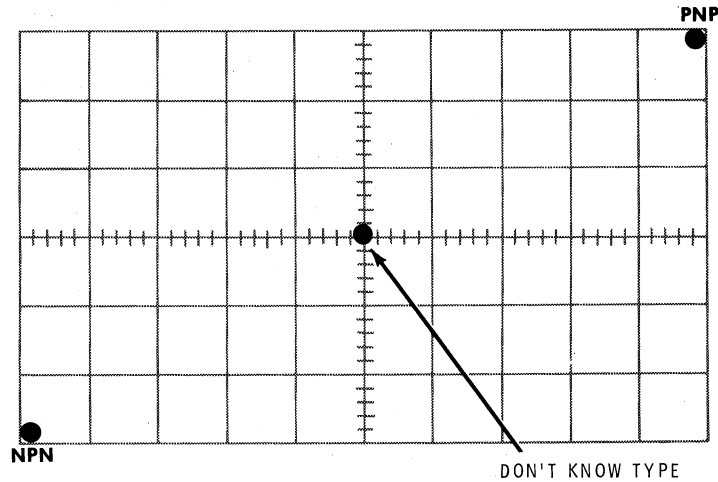

Figure 2-4
- () If the transistor is an NPN, place the dot in the lower left-hand corner of the screen. If it is a PNP, place it in the upper right-hand corner of the screen. If you don't know if it is NPN or PNP, place the dot in the middle of the screen as shown in Figure 2-4.
2. Refer again to Figure 2-4, turn the SWEEP VOLTAGE control fully counter-clockwise, and place the dot in the appropriate corner of the screen for NPN or PNP.